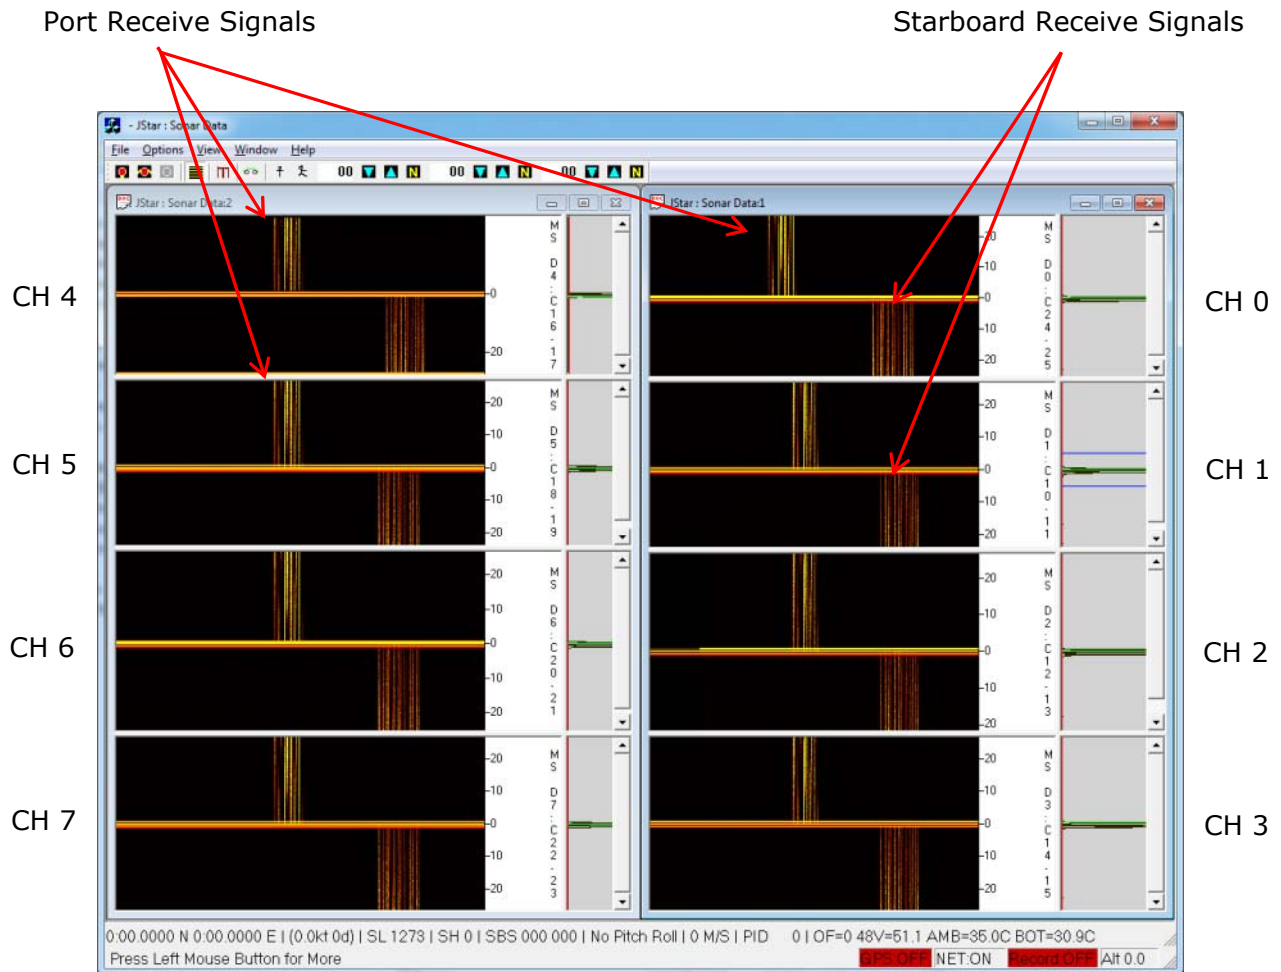

Fig. 17 - Rub Test for 4600 Port and Starboard Arrays (PASSED)
9. Repeat the Rub Test for the Starboard Array. If the response in JSTAR resembles Fig. 17, then the Arrays have passed. If any channels do not respond (as in the example illustrated in Fig. 18), please contact EdgeTech using the information provided in the **Customer Service Section** on page x.
Note 2: Each cell also represents the different elements for each array (see Fig. 17 and Fig. 18 for element assignment.)